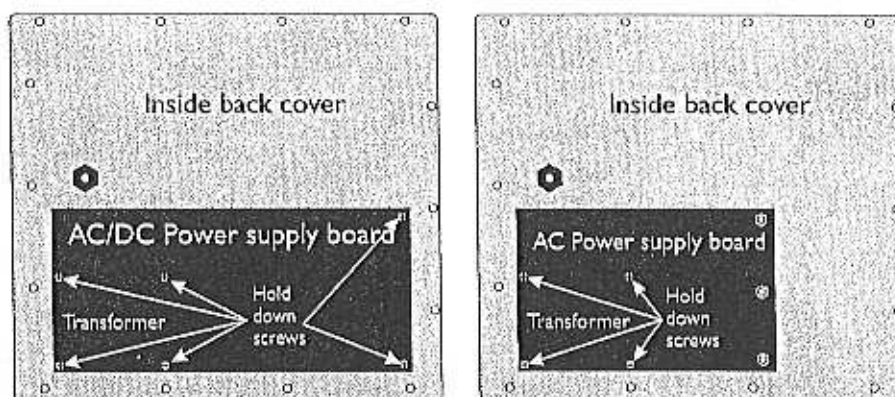

Figure 11
3. If you need to remove the power supply board from the inside of the back cover, begin by disconnecting the power supply wires and the wires leading to the main board. Remove the four screws in the corners of the transformer and the two holding the pc board as shown in Figure 11.